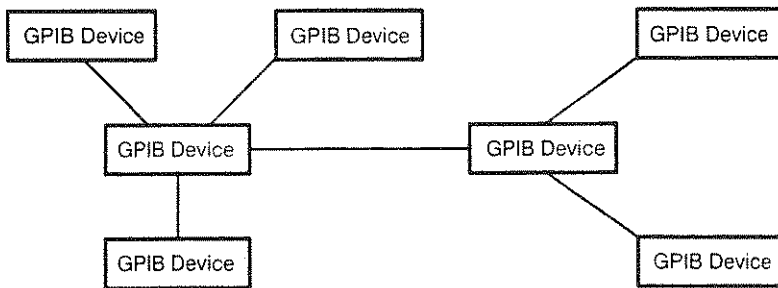

Figure 3-47: Typical GPIB Network Configuration
- You must have only one cable path from each device to each other device on your network (see Figure 3-47). You must not create loop configurations.